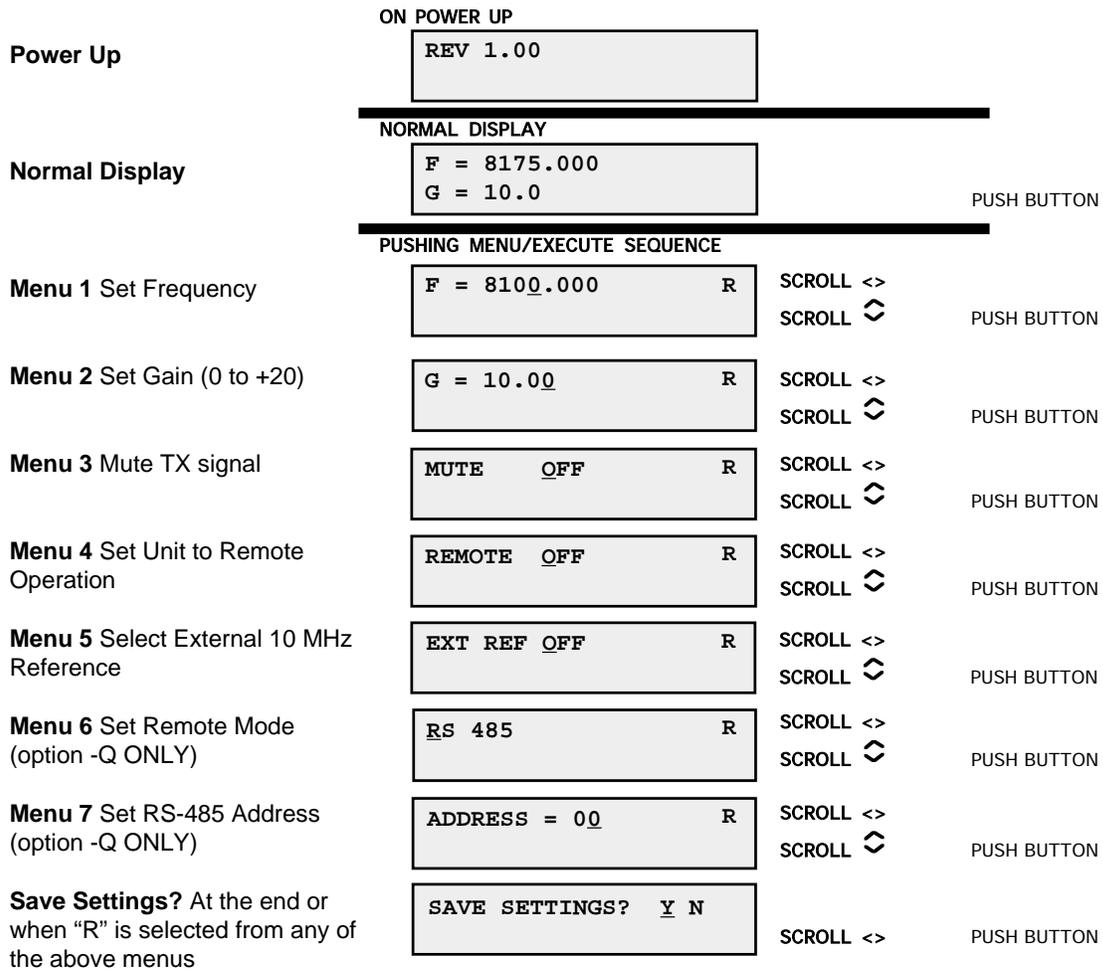

FIGURE 2.5 Menu Display and Sequence
2.5.1 Functions - This section describes operation of the front panel controls. There are three operator switches, the LCD display and alarm indicator LEDs. All functions for the equipment are controlled by these components. The functions are (see Figure 2.5):
Operate the Menu/Execute switch until you get to the menu item you want to change see Figure 2.5 for the sequence of menu options. The following display is for changing the upconverter frequency:
Figure 2.5 shows all the menu items and how to make changes.
Figure 2.5 gives the menu items and how to make changes.